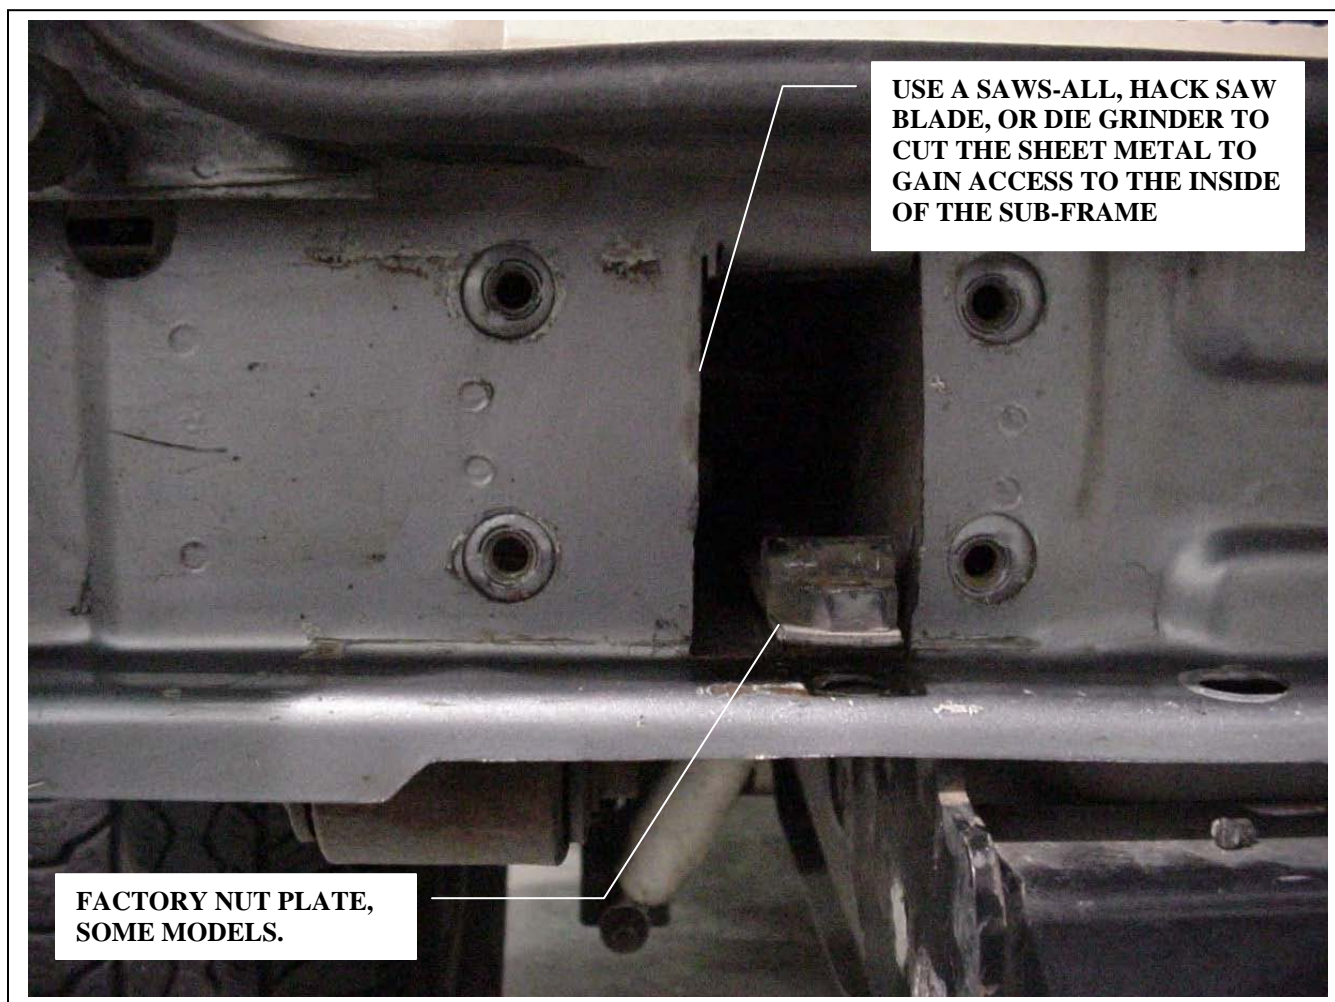

Figure 1, Access Holes in Sub-frame
2. Using a hack saw blade, die grinder or saws-all, cut access holes in the back of the sub frame to gain clearance for the frame brackets. **See Figure 1.** Carefully trim the square hole so the edge is flush with the inside of the sub-frame tubes. Be sure to only trim to the inside edges of the sub frame walls. The bottom of the cutout must be flush to insure the brackets fit properly. Once the sides and bottom are trimmed, the sheet metal flap can be pushed in and bent upward into the sub-frame.